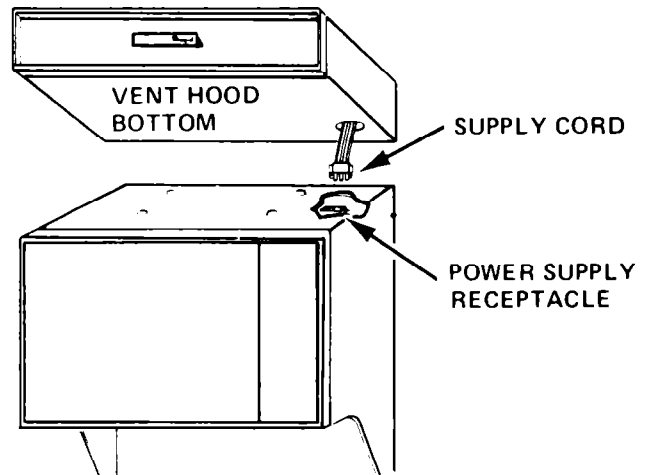

FIGURE 2
2. Take the vent hood and pull the power supply cord through the hole in the bottom of the vent hood until the slack is removed. See Figure 2.
4. Lift the front edge of the vent hood enough to connect the vent hood power supply connector to the receptacle in the top of the oven. See Figure 2.